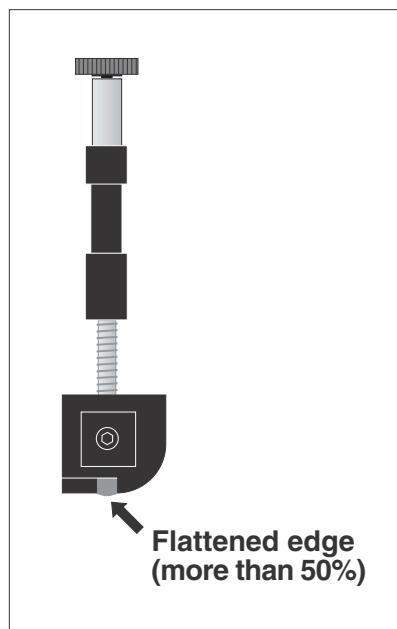

Figure 6-3. Bar Gate
- Bar Gate: Angled wedge begins to flatten excessively (Figure 6-3).